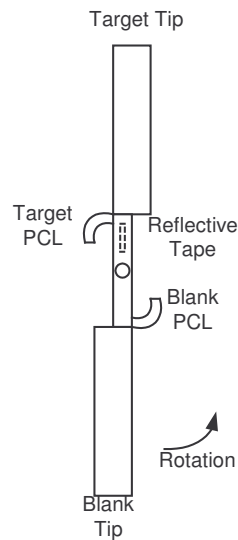

FIGURE 3
4. See section D.3 below for proper alignment when applying a piece of reflective tape to the aft side of one of the tail rotor blades. The blade with tape becomes the target blade. (Figure 3)